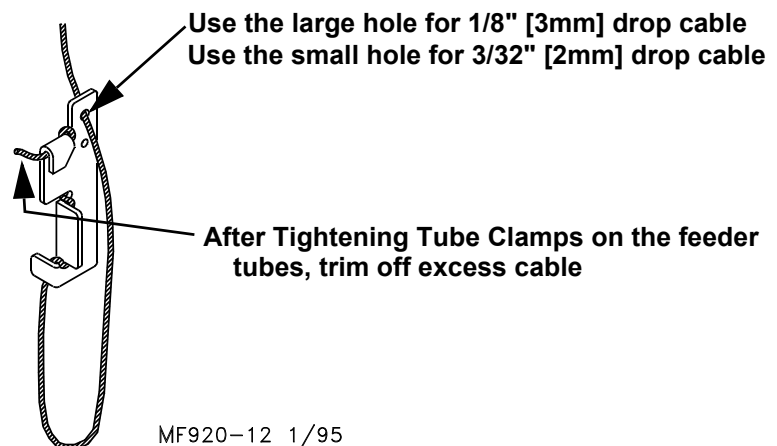

Figure 35. Cable Lock Threading
6. Install Adjustment Leveler within 6" (152 mm) of feeder line. Figure 35 shows the proper cable routing around the Adjustment Leveler.